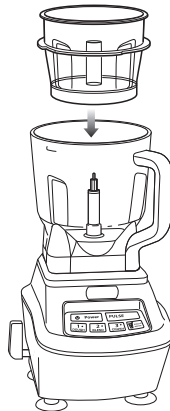

Fig. 3
- 4 Hold the prep bowl blade by the shaft and carefully place it over the center post of the mini prep bowl. (Fig. 3)